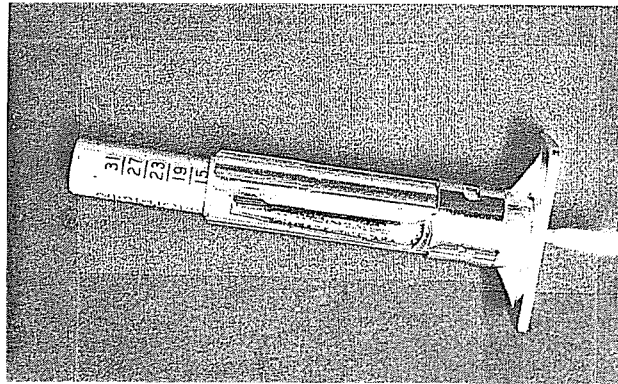

FIGURE 1
2. (a) A tire tread depth measuring gauge with 1/32 of an inch gradations similar to the one shown in Figure 1, or a similar device approved by the Engineer.